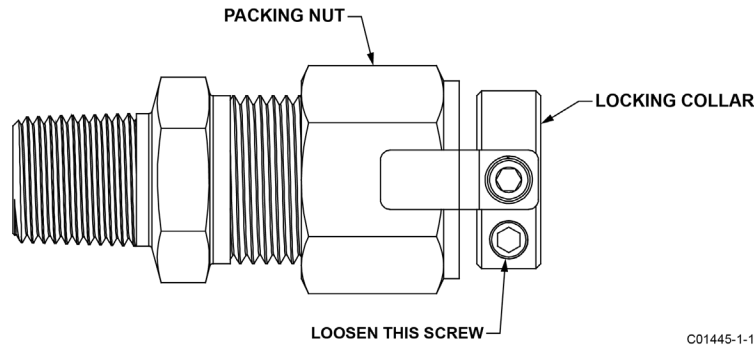

Figure 7 – Retractable Packing Gland Locking Collar Detail
1. Loosen the socket head cap screw on the side of the locking collar. See Figure 7 below.